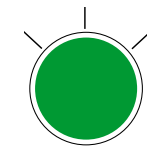

Figure 7. Cycle Status Green LED (ON)
7. When the fluid inside the generator's DEF tank falls below 33%, the DEF tank will automatically begin pumping and the **GREEN** "Cycle" status LED (Figure 7) will turn **ON**, indicating that the external DEF tank has begun transferring fluid to the generator's DEF tank.